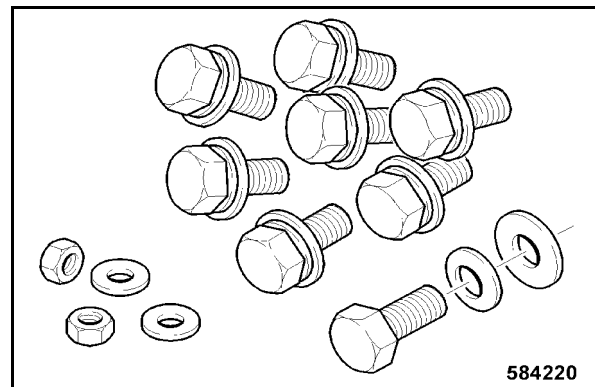

Fig. 204
- Make sure that all fastening screws, washers, spacers and nuts to fasten the cabin are available (Fig. 204).